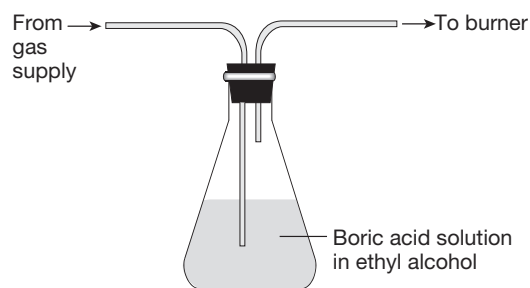

Figure 1.
3. Attach a piece of rubber tubing to both glass delivery tubes. Attach one of the pieces of rubber tubing to the gas outlet. Attach the other piece of rubber tubing to the burner gas inlet (see Figure 1).
5. Insert the stopper into the flask. The piece of glass tubing connected to the gas supply should be submerged in the boric acid solution. The other piece of glass tubing should not be submerged in the boric acid solution (see Figure 1).
1. Assemble the apparatus as shown in Figure 1 (see *Preparation*). Secure the Erlenmeyer flask to prevent it from tipping over.